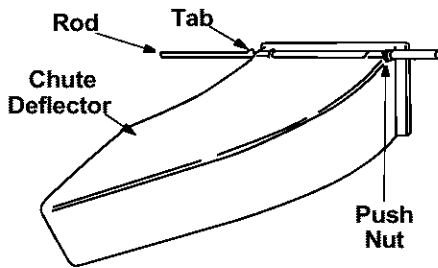

Figure 10
- Slide the rod into the upper edge of the chute deflector so the tab on the rod is toward the left side of the chute deflector. When assembled correctly, the rod will extend further to the left side than the right side. See Figure 10.